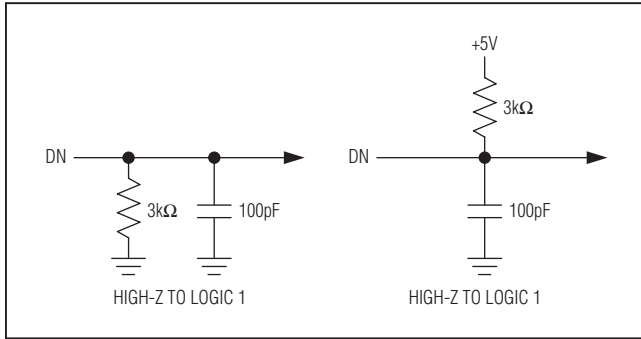

Figure 1. Load Circuit for Access Time Test
**Note 6:** Timing specifications guaranteed by design. All input control signals specified with  $t_R = t_F = 5\text{ns}$  (10% to 90% of +5V) and timed from a voltage level of +1.6V. See loading circuits in Figures 1 and 2.